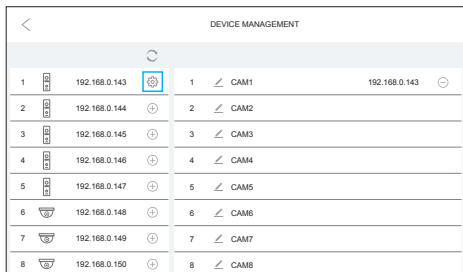
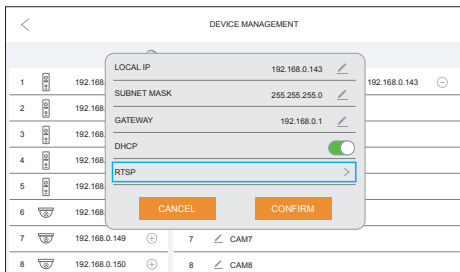

Figure 16
Figure 17
- Step 1: While in the „DEVICE MANAGEMENT” mode, select the icon shown in Figure 16 , to enter the interface as Figure 17.
- Step 2: In the interface shown in Figure 17, select RTSP in the setting list to enter the setting interface as shown in Figures 17, 18 and 19.